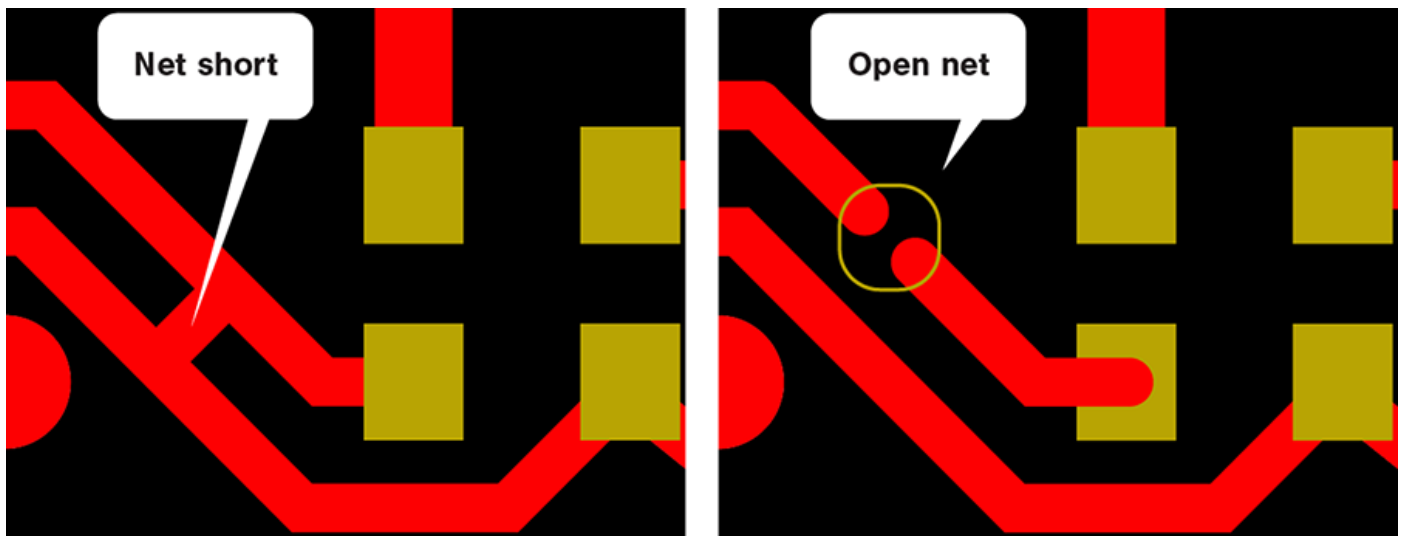

Figure 4. Shorts (a) or open (b) circuits can occur near closely spaced copper features.
- **Shorts/opens.** Etching or drilling problems near closely spaced copper features can leave behind open or short circuits (Figure 4).